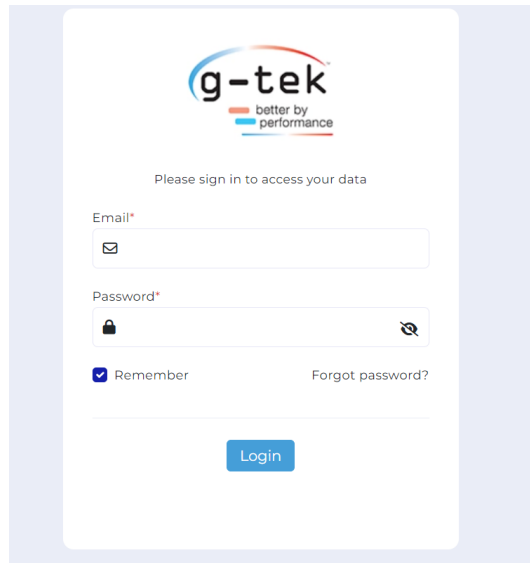

Figure 30 Login Page of the GtekCloud Server Application
- Open the “GtekCloud” server as per the link and login details shared by the manufacturer as shown in the figure 30.